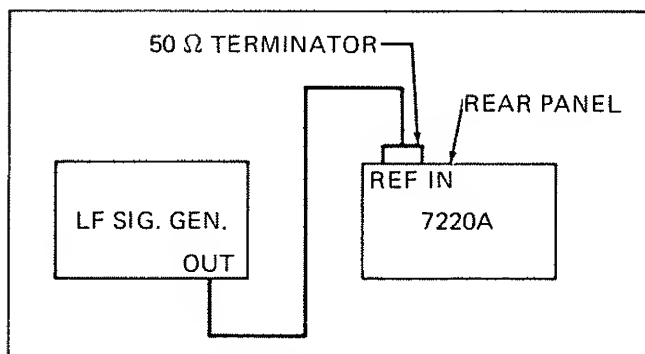

Figure 4-5. External Clock Input Check
3. Connect the Low Frequency Signal Generator to the 7220A rear panel 10 MHz REF IN input as indicated in Figure 4-5 (the 50 ohm terminator must be connected as shown).